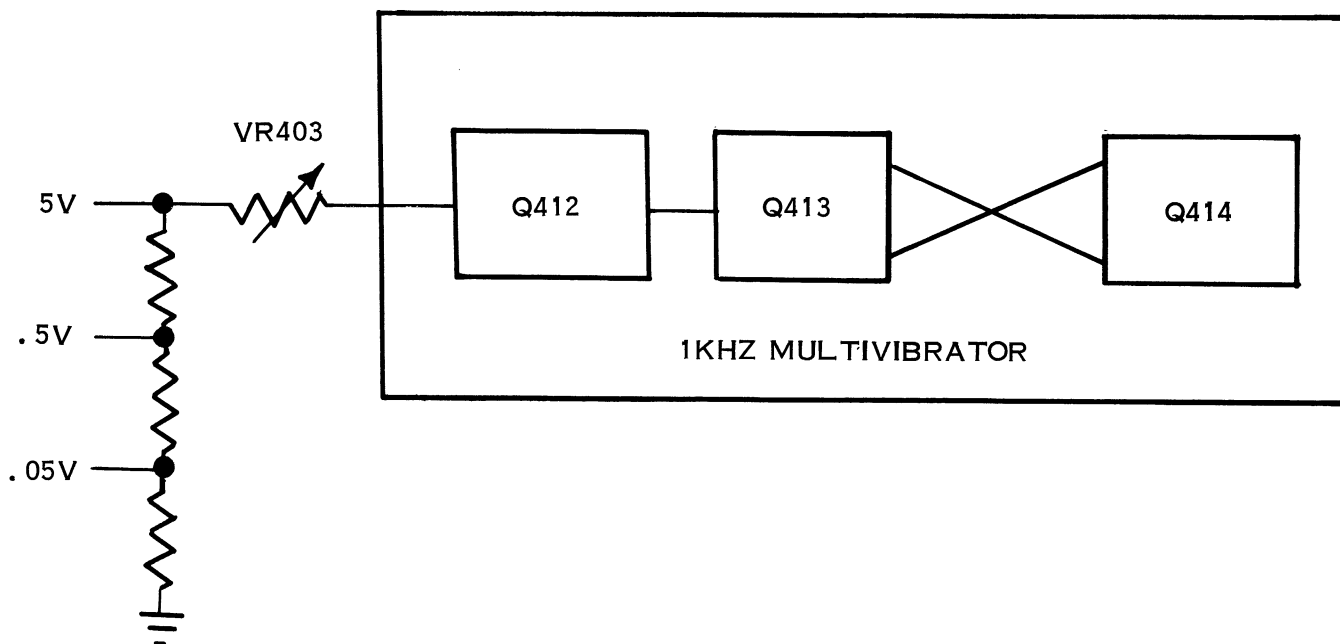

Figure 5-4. Voltage Calibrator Simplified Block Diagram
5.3.5 Voltage Calibrator (Refer to Figure 5-4)